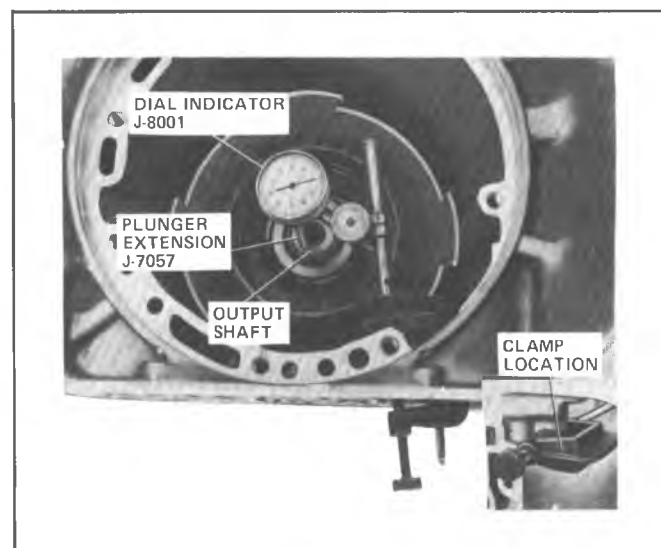

Figure 7A1-38 Checking Rear Unit End Play
b. Remove low and reverse clutch housing to case beveled snap ring. (Figure 7A1-44). (The flat side of the ring should have been against the low and reverse clutch housing with beveled side up.)